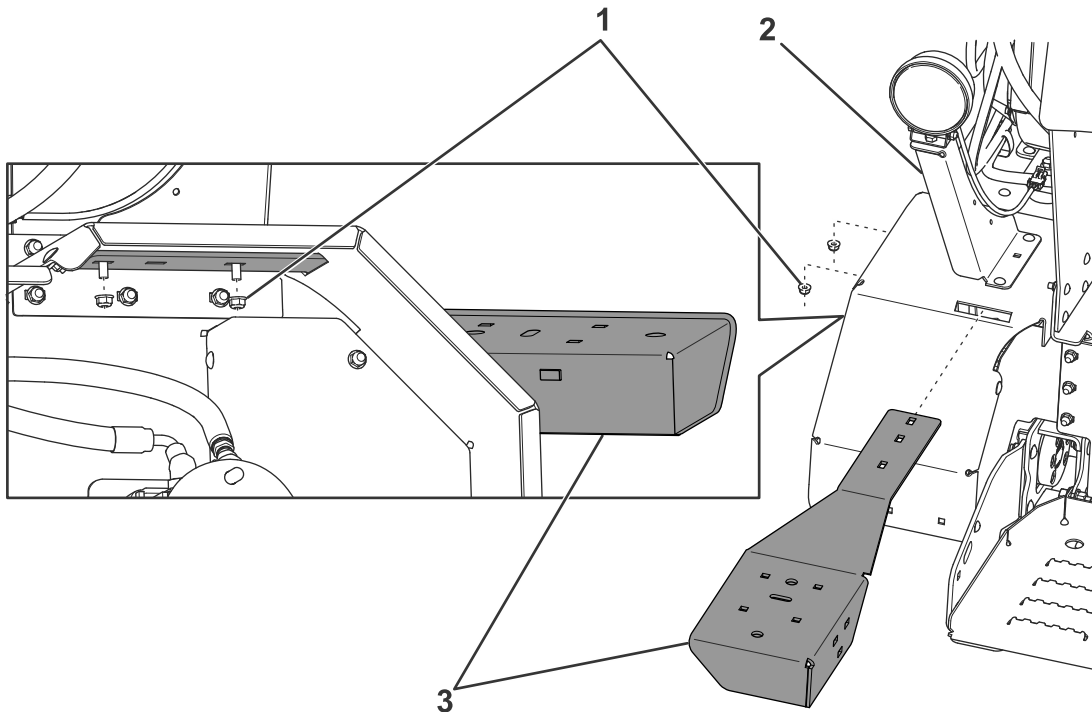

Figure 2
4. Remove the nuts securing the rear light bracket to the machine (Figure 2).
machine using the fasteners for the rear light bracket (Figure 2).